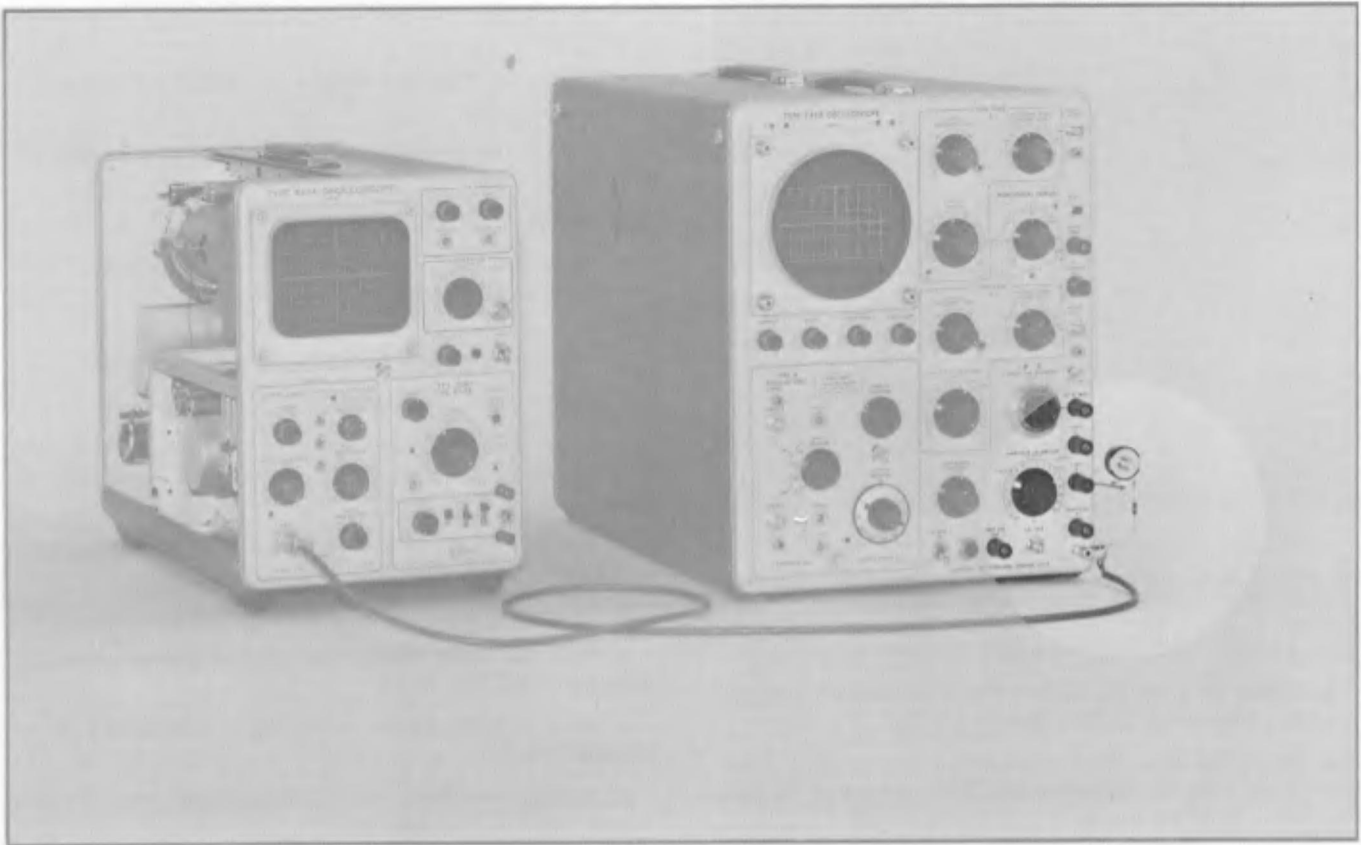

Fig. 5-4. + Gate Attenuator connected to the Test Oscilloscope.
- e. Connect both of the shielded pairs of the low capacitance cable across the 50 Ω resistor of the gate generator, as shown in Fig. 5-4.